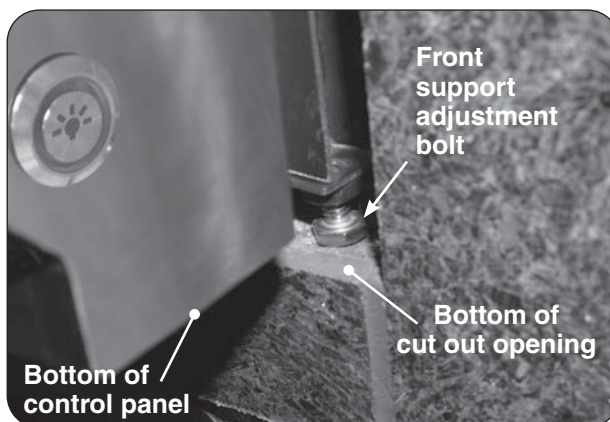

Fig. 20-3 Front support adjustment bolts
This outdoor built-in grill must be supported by the stainless-steel hanger extending from the upper portion of the grill. The hanger rests on the left, right, and back of the countertop and on the two front support adjustment bolts located below the control panel on the gas grill side (see Fig. 20-3).
2. Rotate the front support adjustment bolts to the left to raise and to the right to lower the respective side of the appliance. Use a  $\frac{7}{16}$ " open-end wrench as needed. See Fig. 20-3.